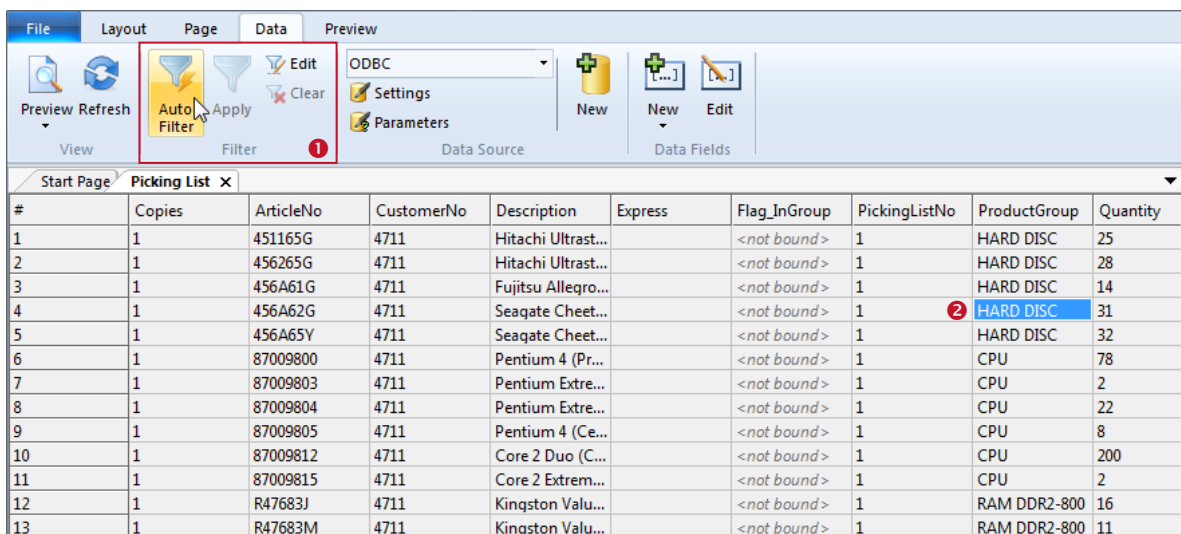

Figure 81: Filter
If you want to filter for *ProductGroup*="HARD DISC", first select the cell with the respective value (see Figure 81, ❷), then click **Auto Filter**.